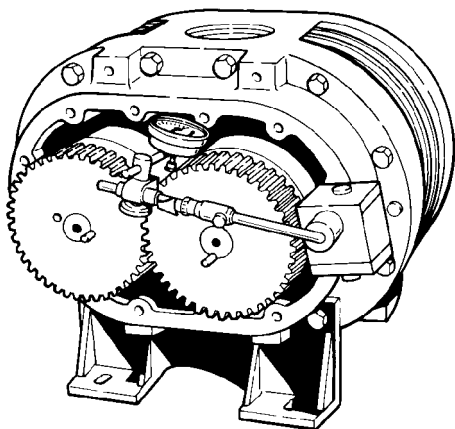

FIGURE 12
- A. Mount a magnetic base dial indicator on the gear headplate (see FIGURE 12).